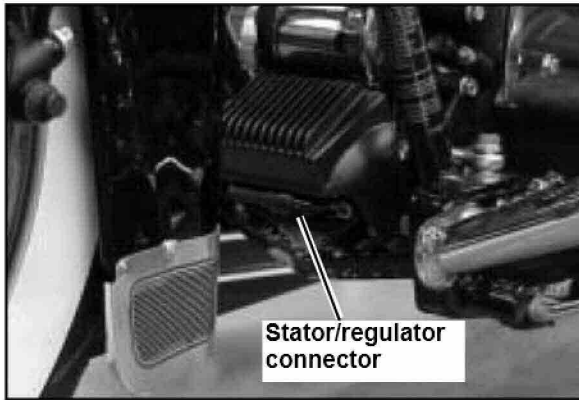

Figure 6. Remove stator/regulator connector
2. See Figure 6. Remove and disconnect the stator/regulator connector from the bracket on the bottom of the voltage regulator.